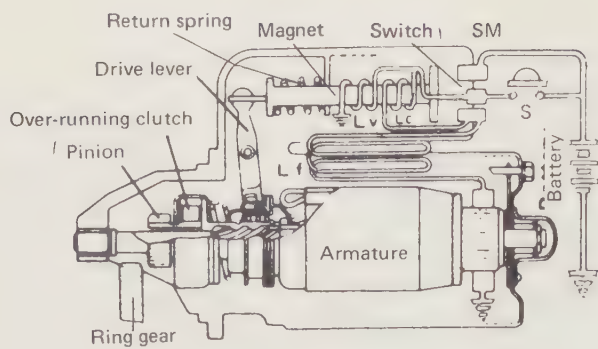
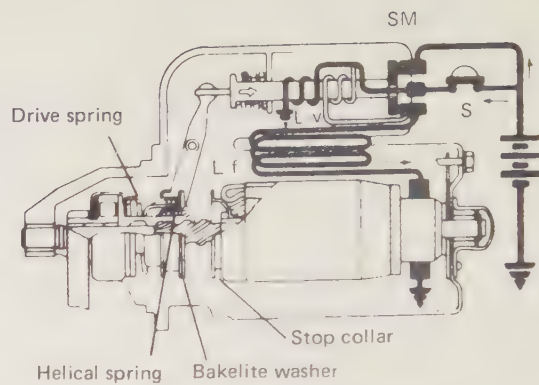

Fig. 10.9. Starter motor static condition
Fig. 10.10. Starter motor operating condition
- Fig. 10.9 shows the static condition and Fig. 10.10 shows the operating condition with the starter mounted on the engine. When the switch 'S' is turned on, current flows from the battery to the pull-in coil 'Lc' and hold-in coil 'Lv'. The drive lever is shifted and the pinion meshes with the flywheel ring gear before the main switch 'SM' closes. When the main switch closes current flows from the battery thru the heavy cable as shown in Fig. 10.10.